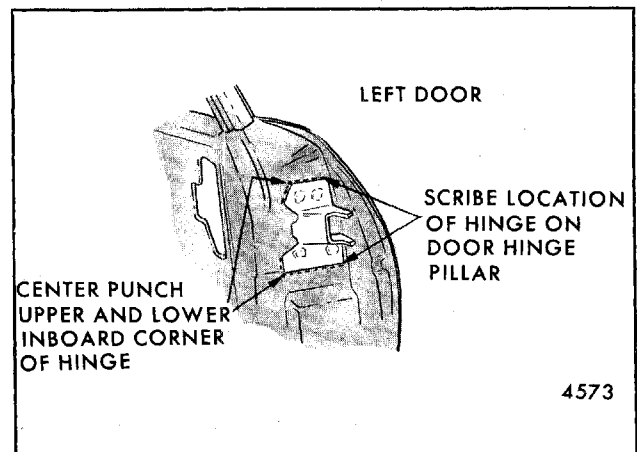

Fig. 5-98-Locating Hinge on Door Hinge Pillar - X Styles
3. Center punch and scribe location of hinge on door hinge pillar (refer to Fig. 5-98).